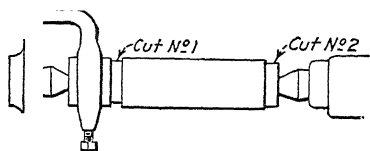

FIG. 92.
**106. Alignment of Centers.**—With the turning tool take a cut (No. 1, Fig. 92) quite near the dog just deep enough to get under the scale and about  $\frac{1}{4}$  in. wide. *Without changing the position of the cross feed*, move the dead center away from the work, swing the piece clear from the turning tool, and run1 the carriage back to take cut No. 2. Put the work back on the centers and take cut No. 2. Caliper both cuts. If they are of the same diameter the lathe is turning straight because the two cuts indicate exactly the same effect as if one cut had been made the whole length to the dog. If the two cuts do not measure alike and cut No. 2 is the larger diameter, the tailstock slide should be moved toward the operator. If cut No. 2 is